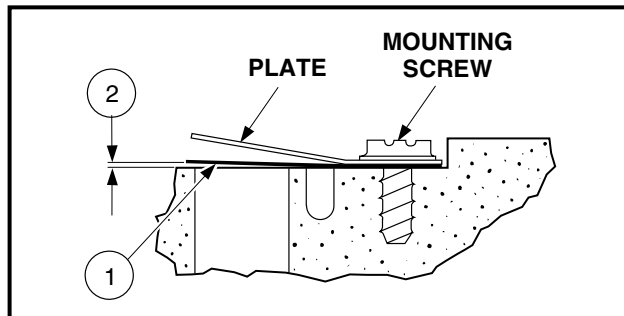

Figure 2-36 Reed Valve
1. Inspect the reed valve (1) for sticking or binding. Replace if necessary (**Figure 2-36, Page 2-19**).
3. Inspect the reed valve (1) seating surface. It must not have any nicks or burrs.
NOTE: Place the reed valve on the seat so there is a slight gap (2) of 0.008 inch (0.203 mm) maximum between the valve and the seat (**Figure 2-36, Page 2-19**).